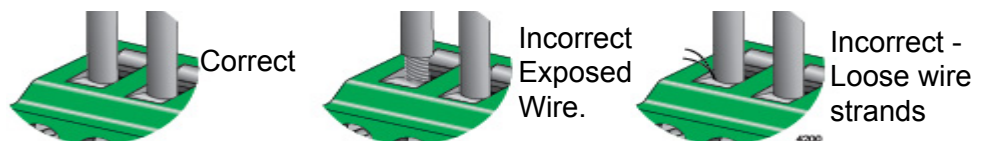

Figure 34. Verify Wire Installation
- After inserting the wires to the connector, verify that there are no exposed wires or loose wire strands. Refer to Figure 34 on page 73.